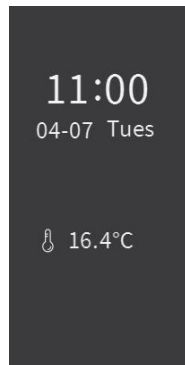

Fig.2.3
④ When external temperature is configured, there is an "E" at the upper right corner of the icon; When internal temperature is configured, there is no "E" at the upper right corner of the icon, as shown in Fig.2.3;